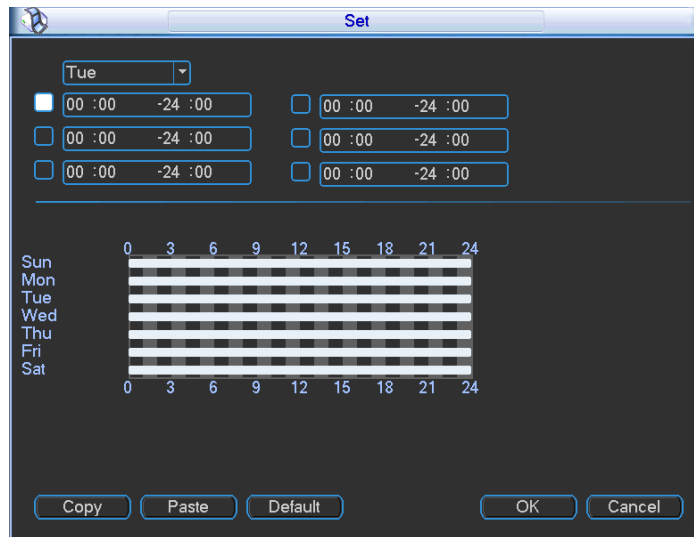
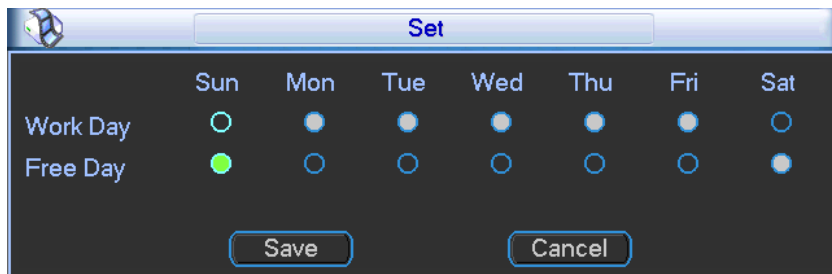

Figure 3-74
Figure 3-75
- Period: Click set button, you can see an interface is shown as in Figure 3-74. Here you can set for business day and non-business day. In Figure 3-74 click set button, you can see an interface is shown as in Figure 3-75. Here you can set your own setup for business day and non-business day.